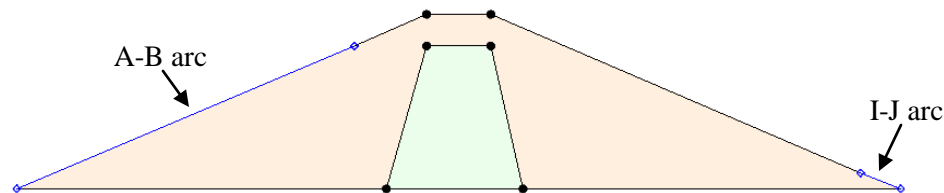

Figure 7 Specified-head boundaries
1. Using the **Select Arcs**  tool, double-click on the A-B arc on the left side (Figure 7) to bring up the *Attribute Table* dialog.
5. Repeat steps 1-4 with the I-J arc on the lower right side (Figure 7), entering “2.0” in the *Head (ft)* column.
The arcs will now be blue, indicating they have specified-head boundary conditions (Figure 7).